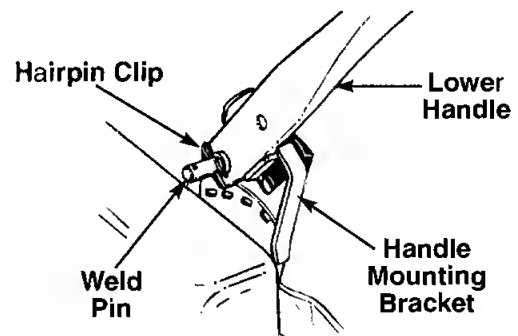

Figure 2
- Remove the hairpin clips from the outer hole in the weld pins on the handle mounting brackets. See figure 2.
- Using a pair of pliers, squeeze one leg of the lower handle against the handle mounting bracket. See figure 2.
- Insert the hairpin clip into the inner hole on the weld pin. Repeat on other side. See figure 2.